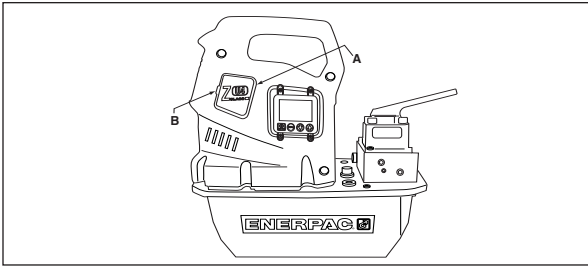

Figure 8, Brush Cap Removal
2. Remove both brush caps (A) by deflecting the brush cap latch (B) and gently prying outward (see Figure 8).